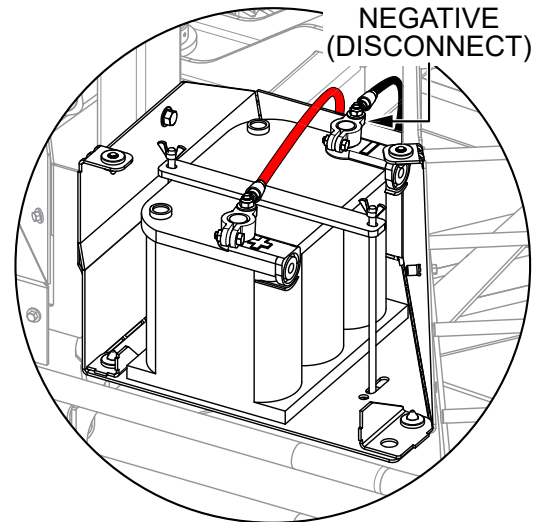

Figure 3. Disconnect Battery
3. Disconnect the negative (**BLACK**) battery cable from the negative (-) terminal on the battery. See Figure 3.